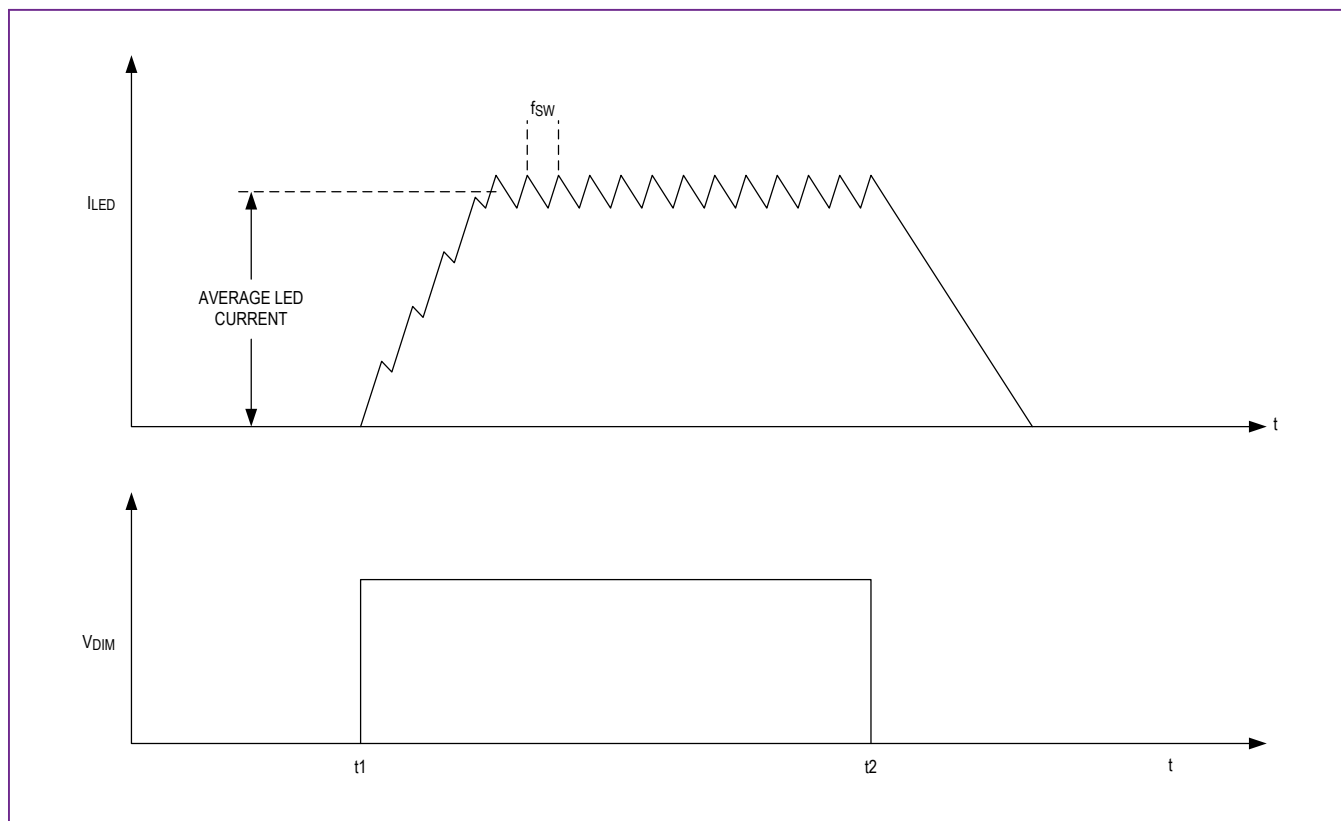

Figure 3. Operation During PWM Dimming When PWM Signal is Applied at PWM Pin
The DIM pin functions as the PWM dimming input of the LEDs. The DIM pin can be driven with a PWM signal that controls the dimming operation of the device. When the DIM signal is high, the switching of the synchronous MOSFETs in the buck LED driver is enabled, but when DIM goes low, both the high- and low-side MOSFETs are turned off. The LED current waveform is shown in Figure 3. The device goes into shutdown mode if the DIM input is below the ON threshold minus the hysteresis for 210ms. In shutdown mode, the input current is less than 5μA (typ).
- 1) Large switched currents flow in the IN and AGND/PGND pins and the input capacitor (C_{IN}) of Figure 3. The loop formed by the input capacitor should be as small as possible by placing this capacitor as close as possible to the IN and AGND/PGND pins. The input capacitor, device, output inductor, and output capacitor should be placed on the same side of the PCB, with the connections made on the same layer.